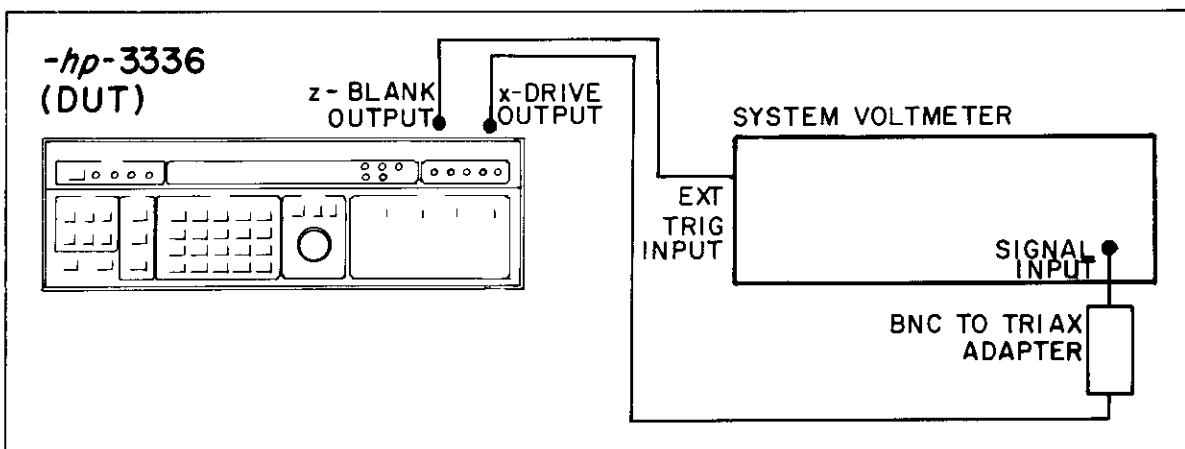

Figure 4-13. X-Drive Linearity Performance Test Equipment Set Up.
a. Connect the equipment as shown in Figure 4-13.